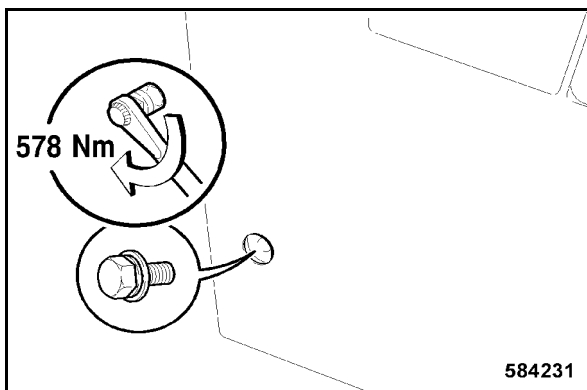

Fig. 212
- Tighten the rear lateral fastening screw on the right hand side with 578 Nm (Fig. 212).